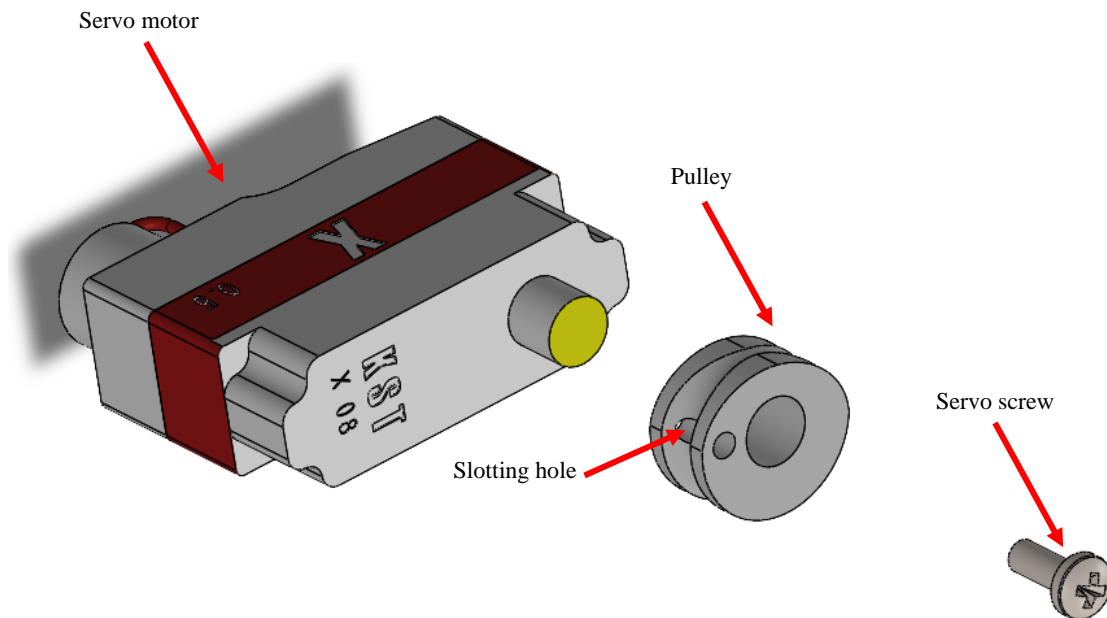

Figure 14: Pulley assembly
4. Using a pointed-nose file, expand the slotting hole (**Figure 14**) such that the tendon string can pass through with little fraying and resistance. Take care not to completely file away the exterior wall of the slotting hole. Filing of the surrounding features of the pulley may be necessary.